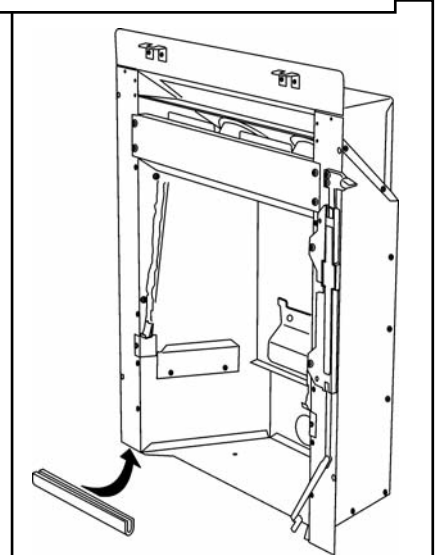

Figure 13. 'U' Seals
5. Fit the two “U” section seals to the bottom edges of the convection box side flanges (See figure 13).